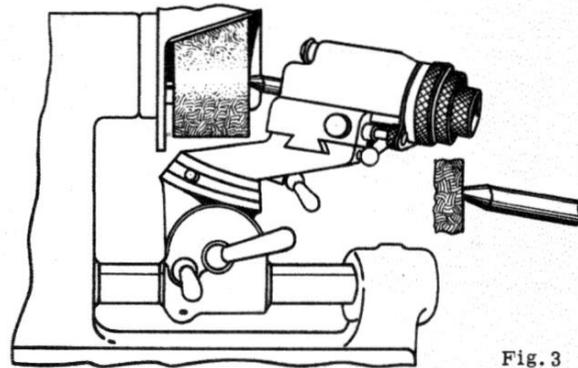

Fig. 3
2. Release clamping lever K2; using scale T2, set swivel arm at an angle of 3° approximately; tighten clamping lever K2, see Fig. 3.